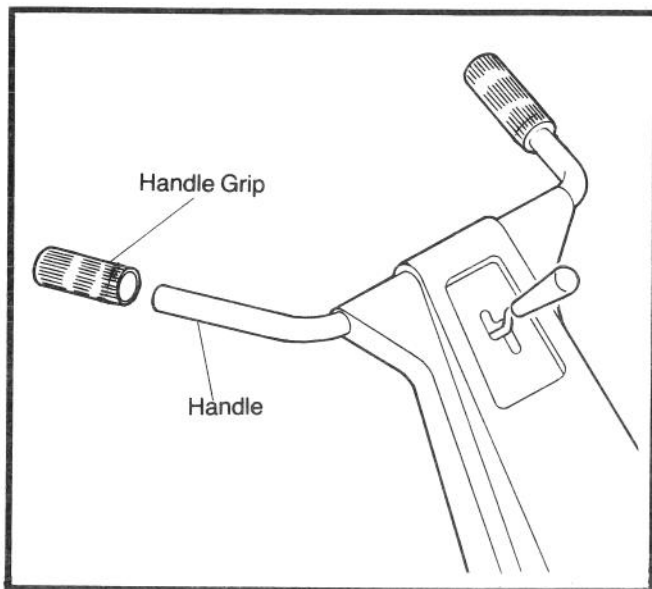

FIGURE 4
5. Slide handle grips* onto the handle, Fig. 4. If grips will not slip on completely, tap end of grip with a block of wood and hammer until grip is all the way on.